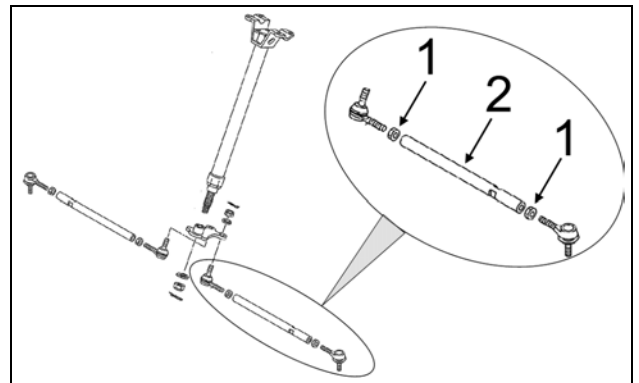

Figure 18
To adjust the ATV's steering system, first loosen coupling rod nuts (1), then screw or unscrew the coupling rod (2) an equal number of revolutions on both sides of the vehicle. Re-tighten nuts when adjustment is complete. See Figure 18.
**CAUTION:** Remember that some nuts have reverse threads before loosening a coupling rod nuts (1) on the vehicle's steering system. Make sure to unlock the nut in the proper rotational direction.